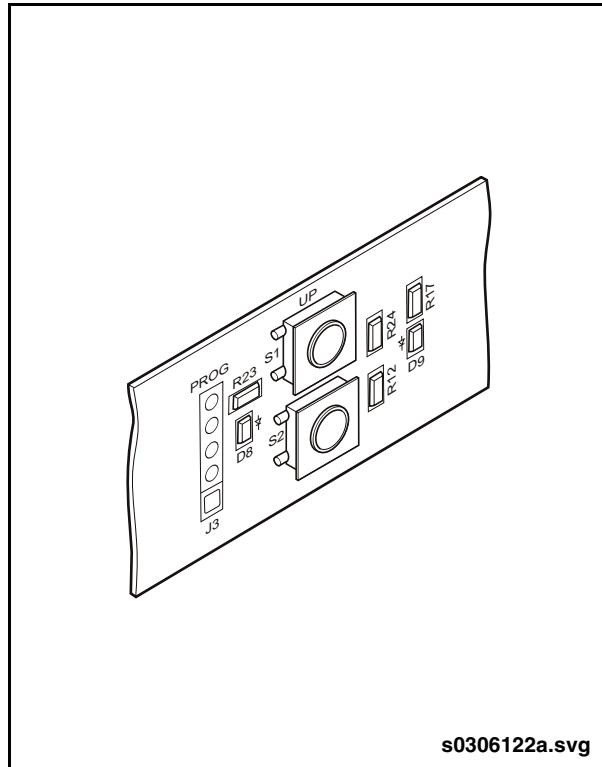

Fig. 9-56: Lighting Board Dimming Adjustment
6. Press the UP button to increase the intensity or the DWN button to decrease the intensity until the desired level of intensity is reached. See "Fig. 9-56: Lighting Board Dimming Adjustment" on page 88.